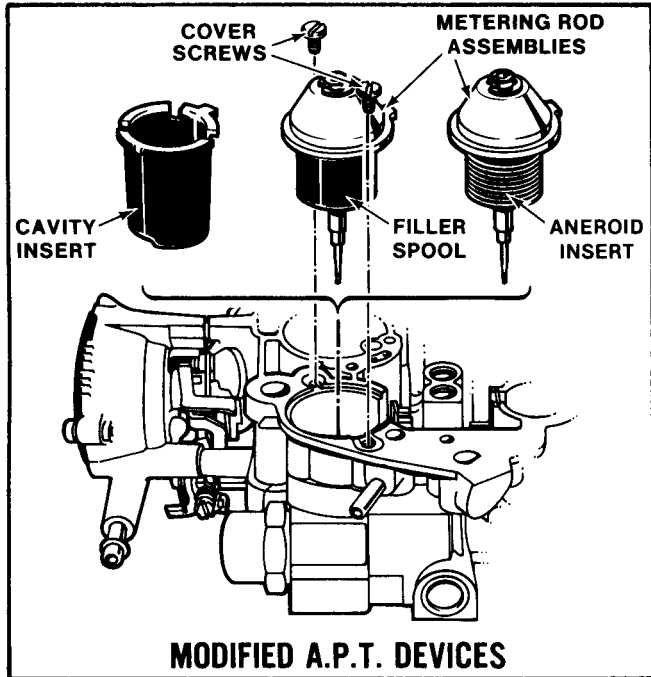

Figure 53 Modified APT Devices
13. On later "modified" models that use the APT (adjustable part throttle) metering rod assembly with aneroid or filler spool, remove two cover screws and carefully lift the metering rod assembly from the float bowl cavity (Figure 53).
14. Many models have a simple blank insert installed in the aneroid bowl cavity (Figure 53). Remove insert.